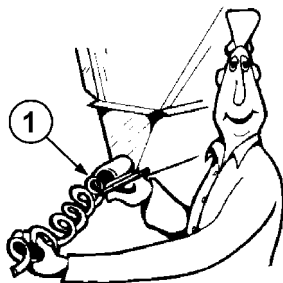

Figure 33. Marking the Relaxed Auger
7. Pull the auger at the boot end until it begins stretching. Then let it relax. In the *relaxed* position, mark the auger at the end of the boot, see **figure 33**.